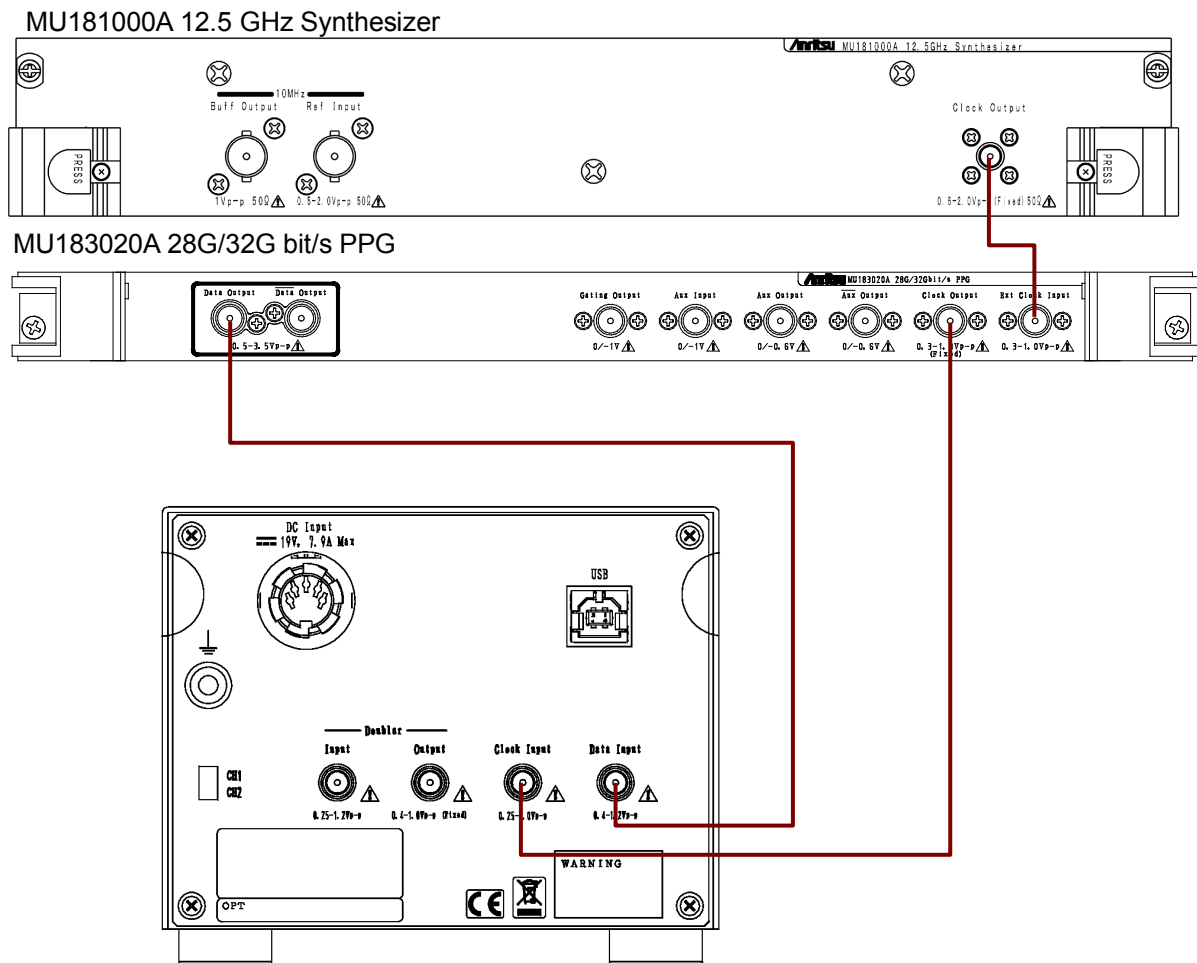

Figure 3.3-6 Connection to MU183020A 28G/32G PPG (Bit rate 2.4 to 14 Gbit/s)
- For connection shown in Figure 3.3-6, set Output Clock Rate of MU183020A as **Full rate**. For MU183020A setting method, refer to Chapter 5 “Operation Method” in the *MU183020A 28G/32G bit/s PPG MU183021A 28G/32G bit/s 4ch PPG Operation Manual*.